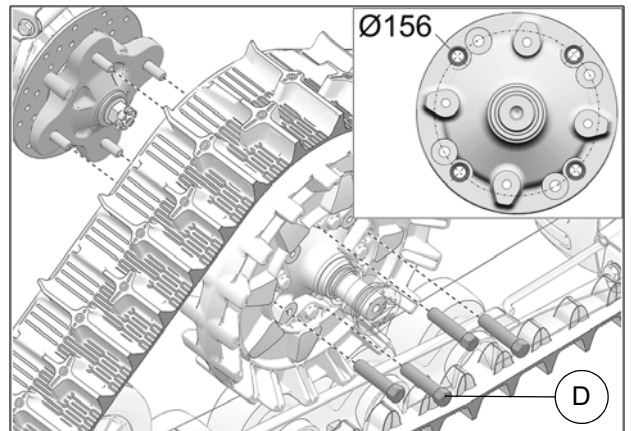

Fig. 15
16. Secure undercarriage to rear hub using the provided M12 lug nuts (D). Use bolt circle Ø156 mm. See Fig. 15